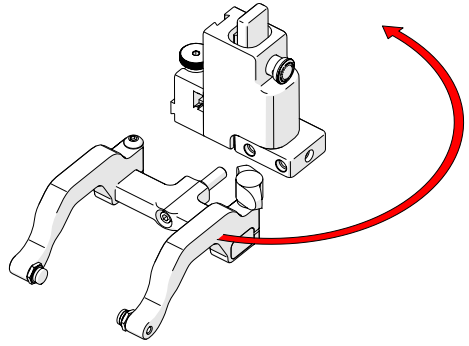

Fig. 180 - Orient to opposite side
2. Position the yoke and arms to the opposite side of the probe holder (Fig. 180).